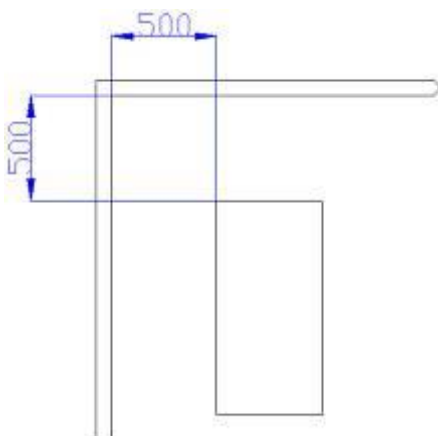

FIG. 3
- Respect the minimum distance from walls, as shown in FIG.3 to have the necessary space for the working, cleaning and maintenance operations.